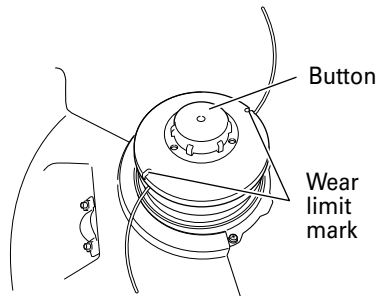

Fig. 17
- Check the case and button for wear. If the wear limit mark on the case is no longer visible or there is a hole in the bottom of the button, change the new parts immediately. (Fig. 17)